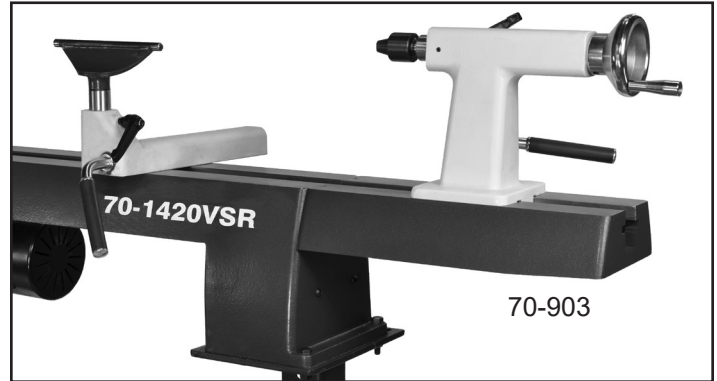

FIG. 7
- **#70-903** This 13-1/2" Bed Extension extends the lathe's maximum spindle length from 16-1/2" to 30". If the lathe is mounted on a stand, a stand extension is not needed. FIG. 7.